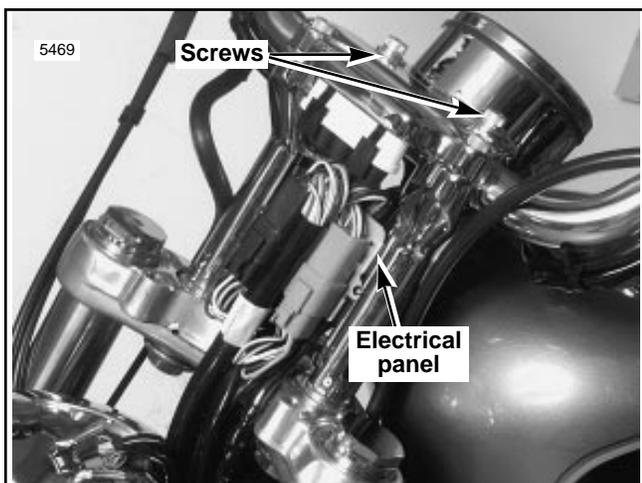

Figure 1. Front View With Riser Cover Removed
1. See Figure 1. Remove and discard handlebar clamp screws securing speedometer bracket. Gently move speedometer forward and hang from mirror with cable strap.
4. Remove rear riser cover (3) and front riser cover (2).
5. See Figures 1 and 2. Note how electrical harnesses and connectors are positioned on the front and rear of the electrical panel.